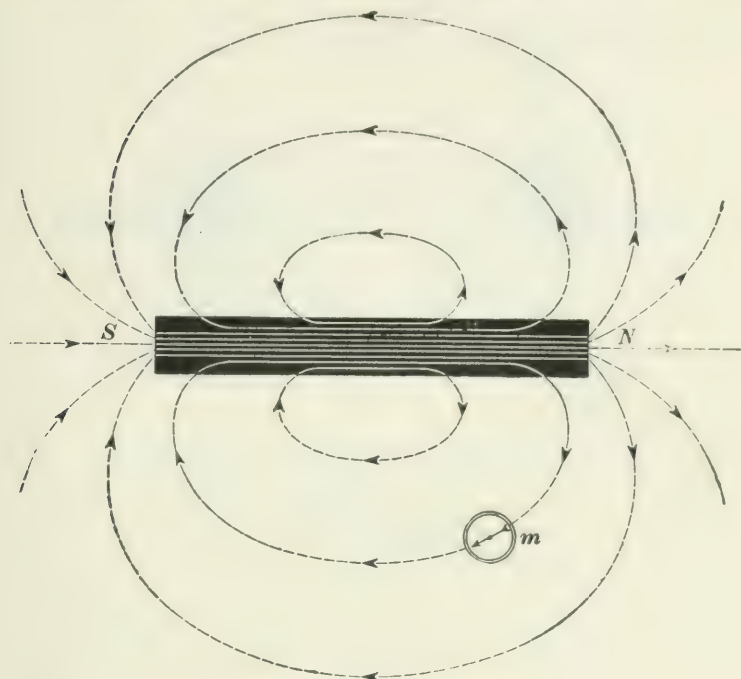

FIG. 13.
through the magnet to the north pole again, as shown in Fig. 13. This is called the *direction of the lines of force*, and the path which they take is called the *magnetic circuit*.
23. The *direction of the lines of force* in any magnetic field can be traced by a small, freely suspended magnetic needle, or a small compass such as indicated by *m* in Fig. 13. The north pole of the needle will always point in the direction of the lines of force, the length of the needle lying either parallel or tangent to the lines of force at that point. If the needle be moved bodily in the direction towards which the north pole points, its center or pivot will describe a path coinciding with the direction of the lines of force in that part of the magnetic field.